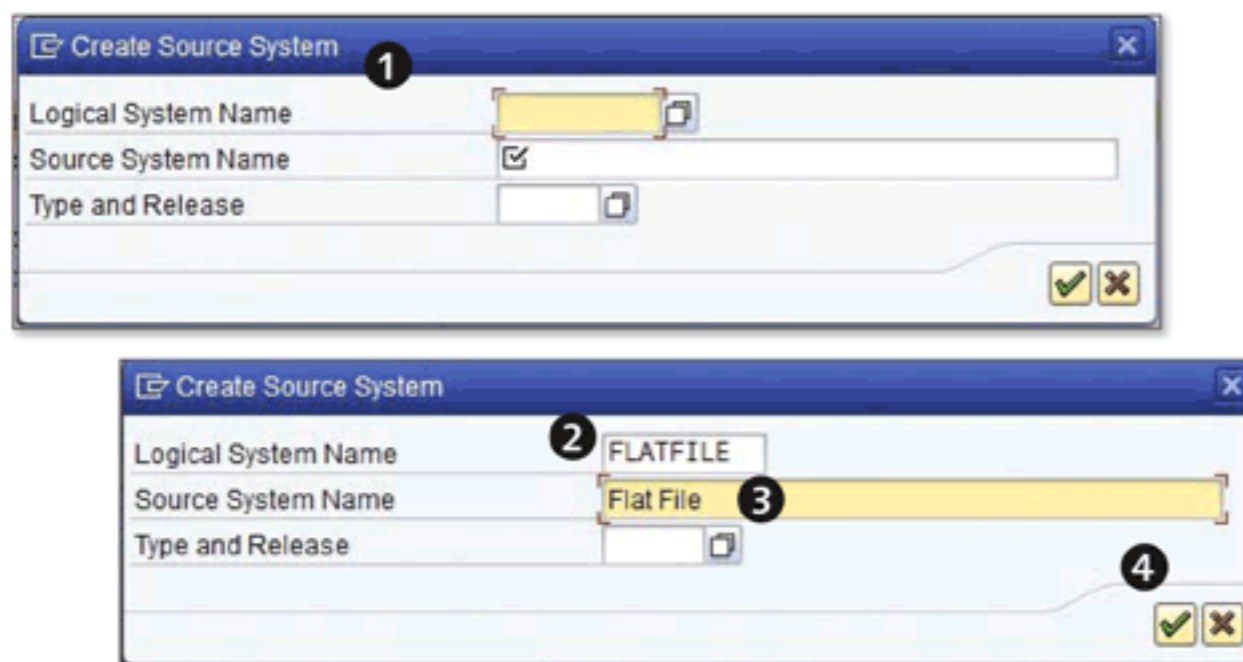

Figure 7.4 Create Source System
For our example scenario, select FILE SOURCE SYSTEM (3). From the context menu, select CREATE (4). This action generates a screen titled CREATE SOURCE SYSTEM, as shown in 1 of Figure 7.4.